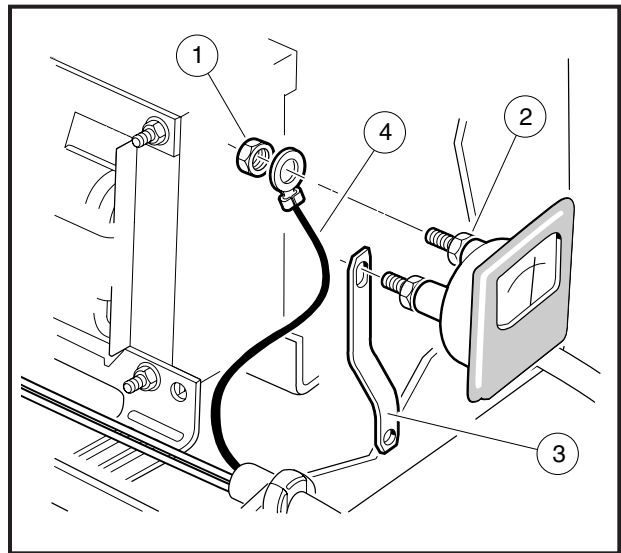

FIGURE 19-16
4. Install nut (1) on post of ammeter slightly more than finger tight. While holding the outside nut (1), turn the inside nut (2) counterclockwise 1/4 of a turn (**Figure 19-16**).
- CHECK POSITION OF TERMINALS TO BE SURE THAT THEY ARE NOT TOUCHING THE AMMETER BUSS BAR (3) OR THE OTHER AMMETER POST (**FIGURE 19-16**).